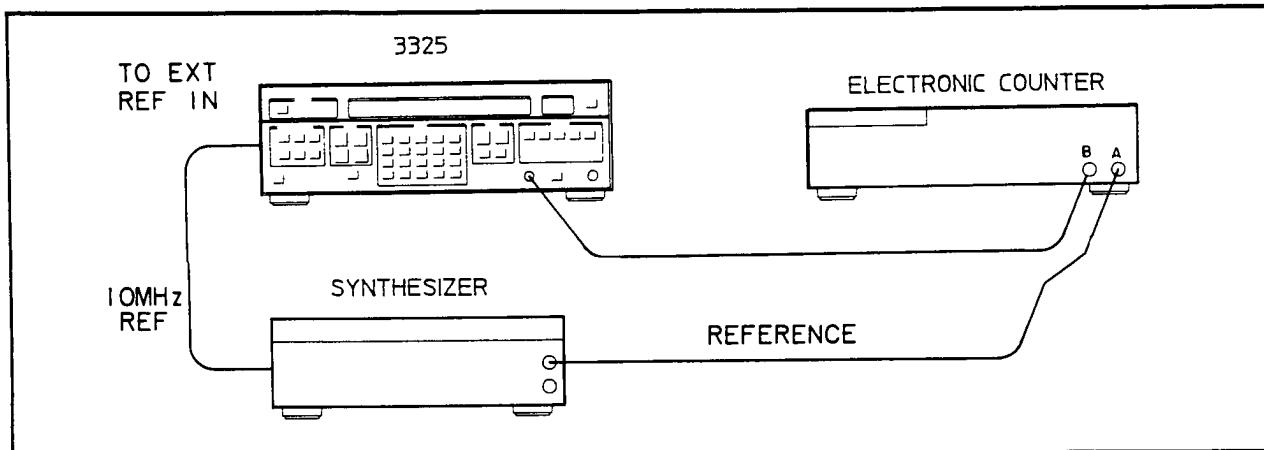

Figure 4-12. Phase Increment Accuracy.
a. Connect the equipment as shown in figure 4-12.